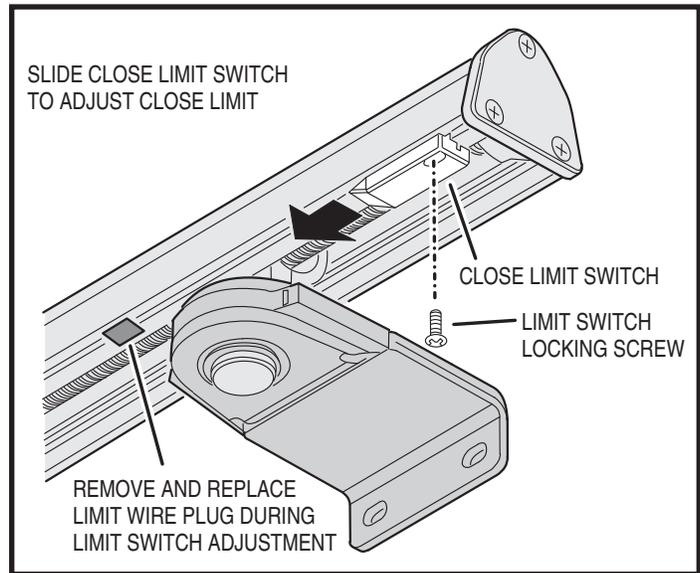

Figure 9. Close Limit Switch
4. To limit the *closing* travel of the gate for setup, loosen the locking screw on the close limit switch, remove the wire holding plugs from the wire slot in the channel, slide the switch towards the center of the operator (see Figure 9).